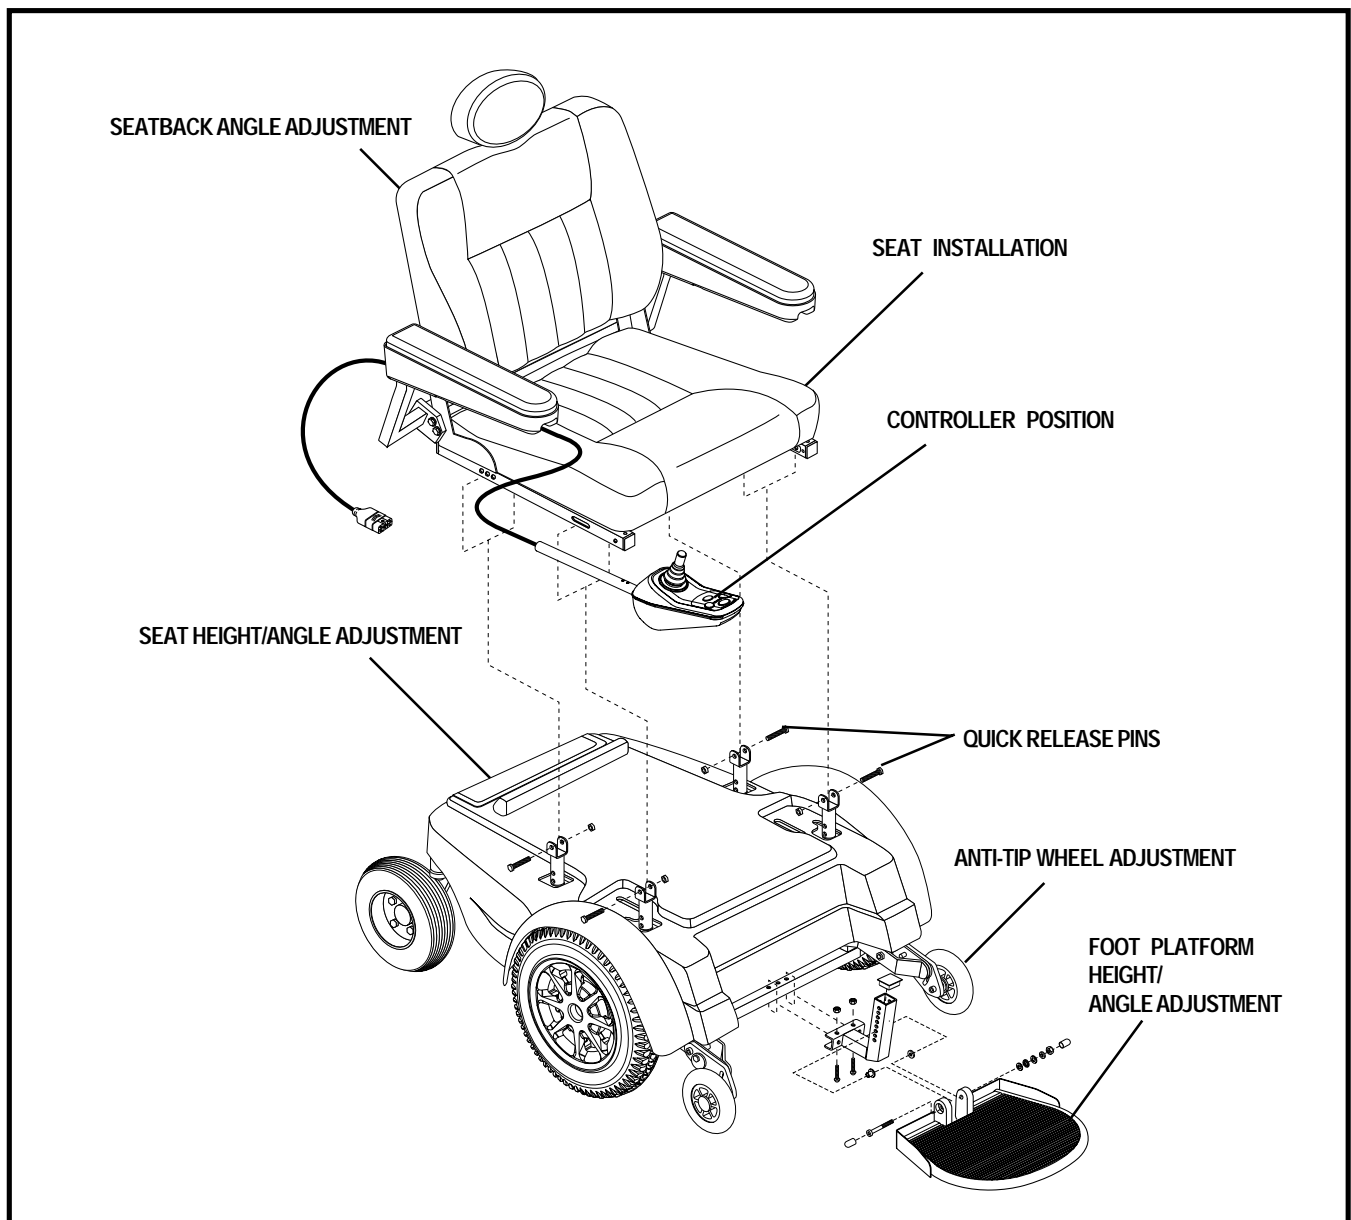

Figure 10. Jazy 1170XL Plus Assembly View
Your power chair may require some assembly either before initial use or after transportation. It may also require disassembly to make some comfort adjustments. Figure 10 details those parts of the power chair that are designed to be disassembled and assembled by an end user or by a qualified caregiver before using the product or making comfort adjustments.
2. Remove the quick release pins from each of the four seat pin receivers. See figure 10.